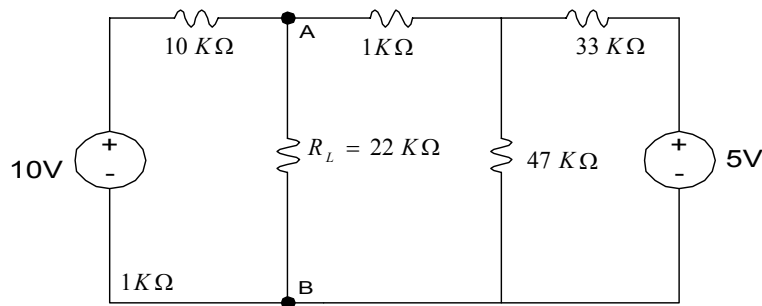

Figure 1
- 2- Connect the circuit of Figure 1 and measure V_L and I_L .
- 10- Reconnect the circuit as shown in Figure 1, but replace the 22 K Ω resistor between A and B and by a variable resistor (i.e. R_L in this case is the variable resistor).